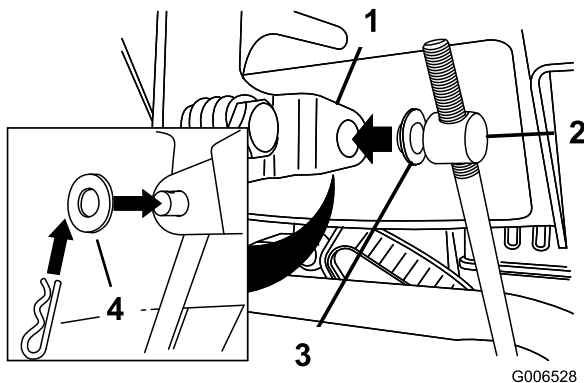

Figure 6
3. Place a flat washer on the trunnion (Figure 6).
6. Pull up the speed-control rod and insert the trunnion into the hole in the speed-selector lever (Figure 6).
- B. Disconnect the trunnion from the speed-selector lever (Figure 6).
- C. Turn the trunnion upward (counterclockwise) on the speed-control rod (Figure 6).
- D. Connect the trunnion to the speed-selector lever (Figure 6).